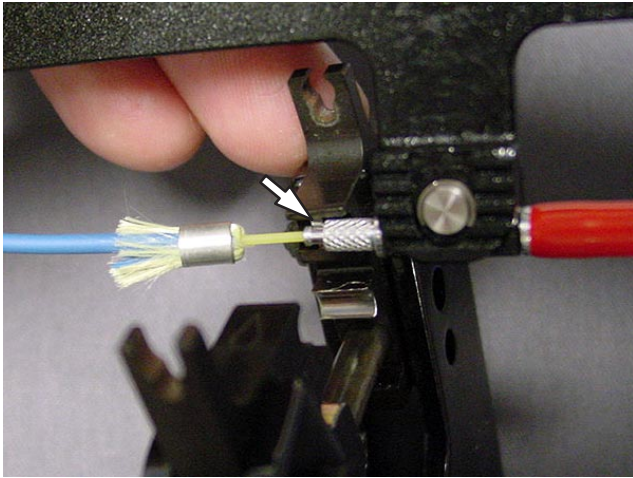

Figure 75
3. Place the knurled body into the die set as shown in Figure 75 and crimp the buffer by closing the handles until the ratchet releases.